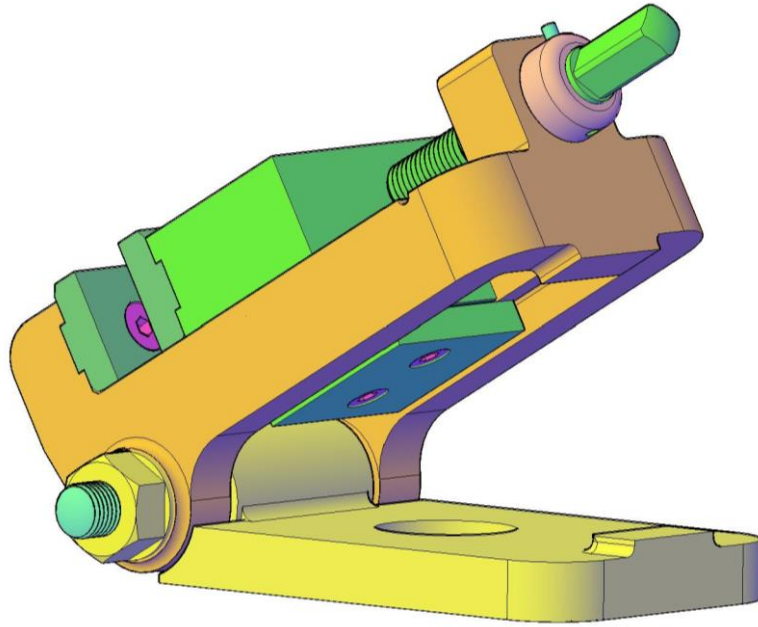

Figure 1a
1. A machine Compound Vice, illustrated in Figures 1a and 1b, is used to hold a workpiece for machining on a grinding machine surface table. Figures 1c and 1d show details of the compound vice parts. The compound vice is assembled as follows.
- One of the jaw plates, (Item 5), is attached to the swivel body at the face marked (P), and the other jaw plate is attached to the guide block, (Item 3), at the face marked (Q). Each jaw plate is secured by two cheese head screws, (not shown).
- The spindle, (Item 8), operates the movement of the guide block. The spindle is inserted in the  $\text{Ø}22 \text{ mm}$  hole of the swivel body. The  $\text{Sq}22 \times 5$  threaded collar, (Item 10), is screwed on to the spindle and locked by means of a taper pin (not shown). The shoulder (E) of the threaded collar rests against the surface (S) of the swivel body.